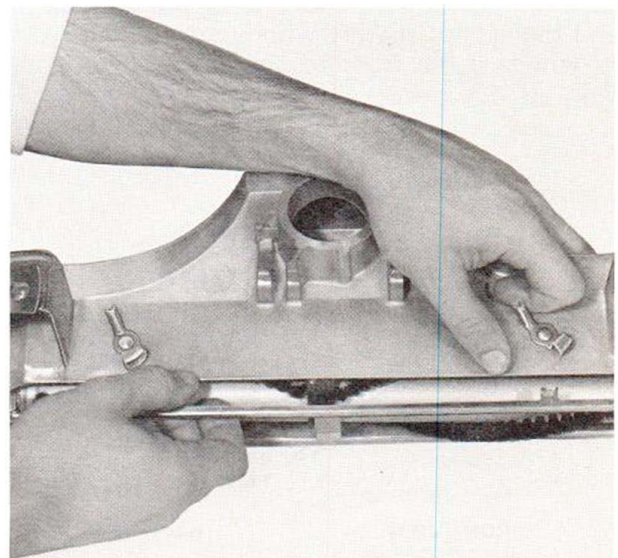

Figure 2-3. Releasing rug plate spring lock
a. Adjust belt lifter (14) to release the tension on belt (3).
b. Turn the two rug plate latches (7) to release the rug plate, and swing the plate down and off the two bosses on the front of the nozzle body, as shown in figure 2-3.